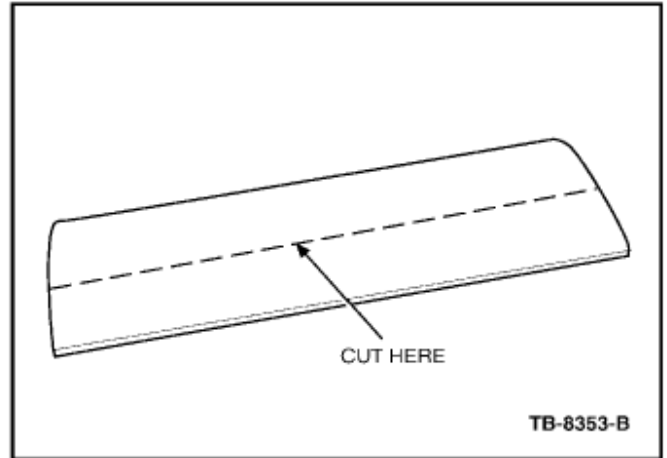

Figure 7
9. Cut both of the PVC soft foam adhesive stripes in half, lengthwise, so you have four (4) pieces 7/8" x 6" (22 mm x 152 mm). (Figure 7)